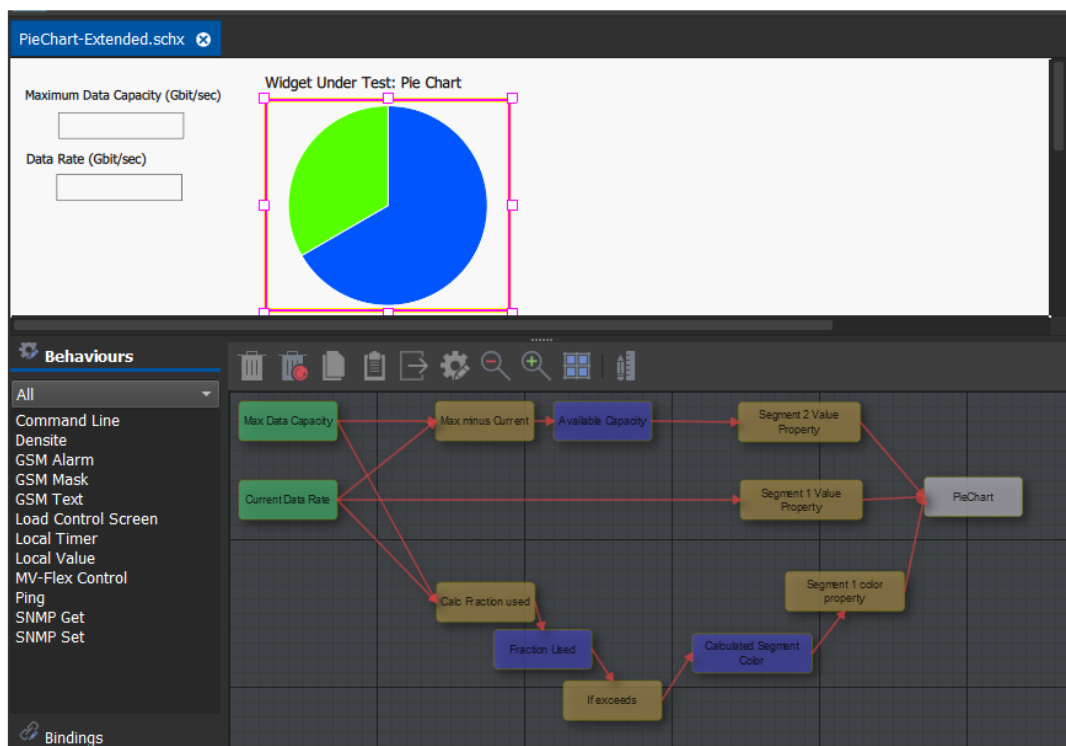

Fig. 4-12: Pie Chart Test Bench Screen (of Extend Widget Functionality with Behaviours and Bindings, on page 58)
In this sub-section, the test bench screen from Extend Widget Functionality with Behaviours and Bindings, on page 58, is developed by encapsulating some of the screen functionality into a Component with the screen's **Pie Chart** widget and its associated functionality. The test bench screen from Extend Widget Functionality with Behaviours and Bindings, on page 58, is shown in Figure 4-12.
- 1 Open the test bench screen and select the **Pie Chart** widget (as shown in Figure 4-12).